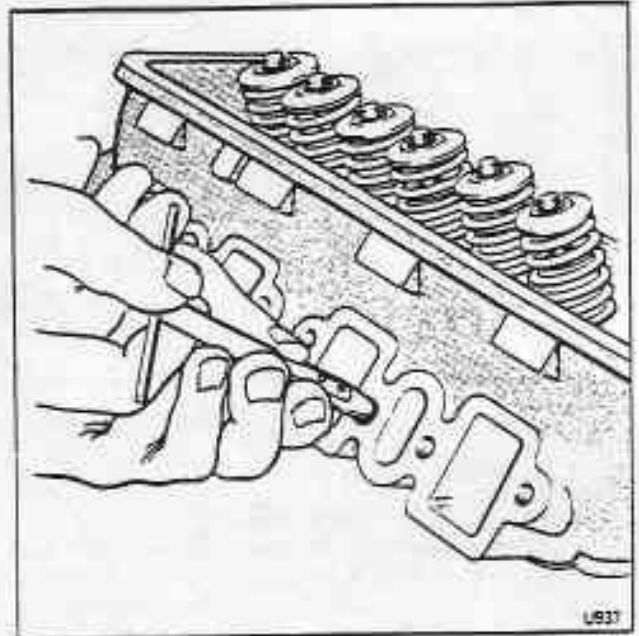

Fig. A6-1 Heli-coil extraction tool
**Heli-coil insert - To remove (see fig. A6-1)**